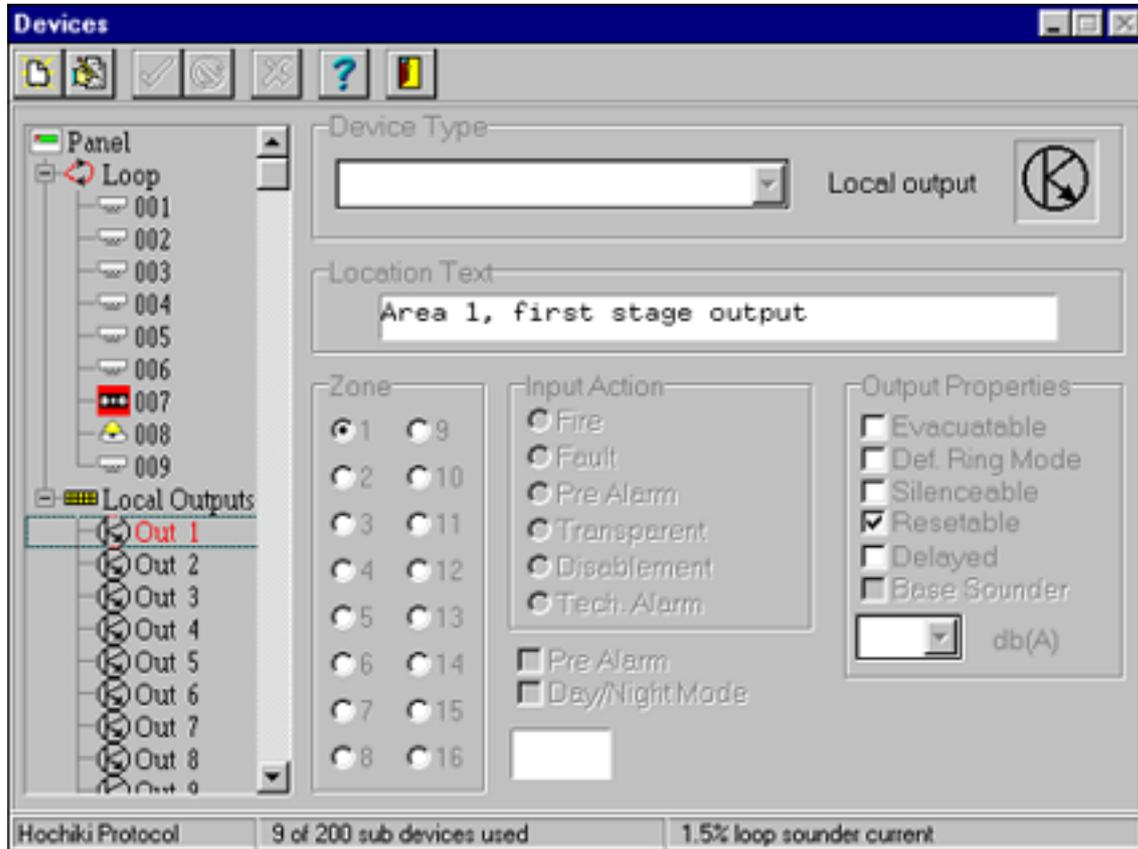

Fig. 1 - Local Output Settings
**NOTE:** Peripheral detection is permitted, providing the other devices are not selected as inputs to the cause & effects described below. The example in Fig 1 shows three additional peripheral devices.
The output properties for the local outputs 1 and 2 should be set so that the output does not respond to default ring mode, is not evacuable, silenceable or delayed (see Fig 1). These outputs are controlled by cause & effect operation